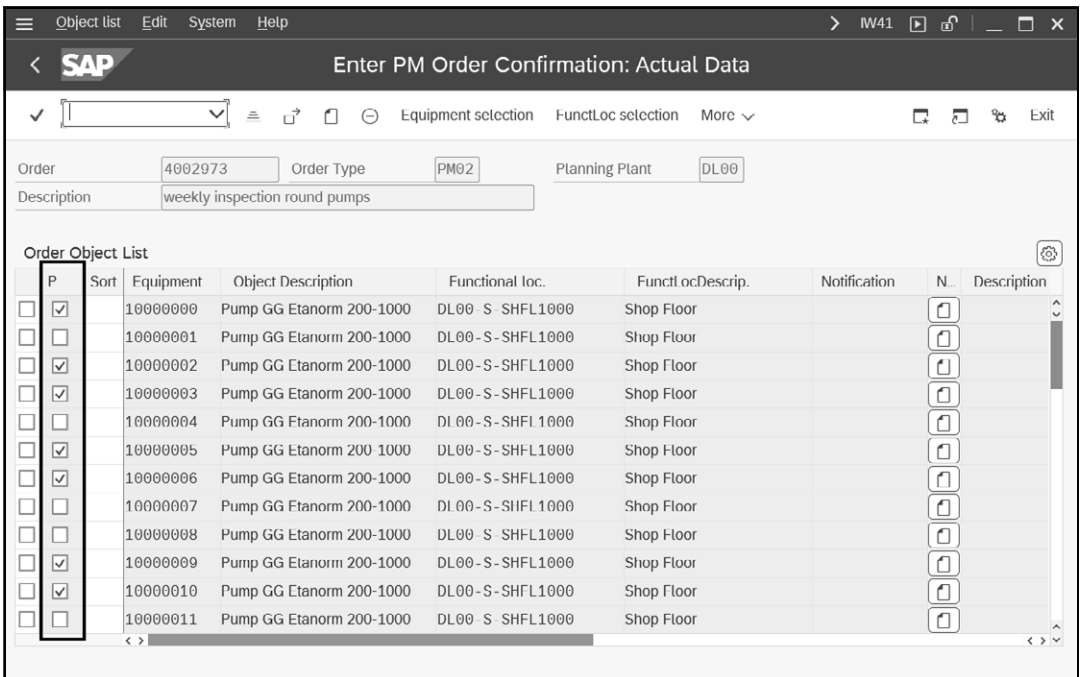

Figure 5.67: Basic Inspection Round: Confirmation
To confirm the basic inspection round, it's best to use Transaction IW42 for the overall completion confirmation. First report the times there. Then select **Environment • Object List** and navigate to the object list confirmation (see Figure 5.67). In the processing indicator column (P), select the objects that have been processed.